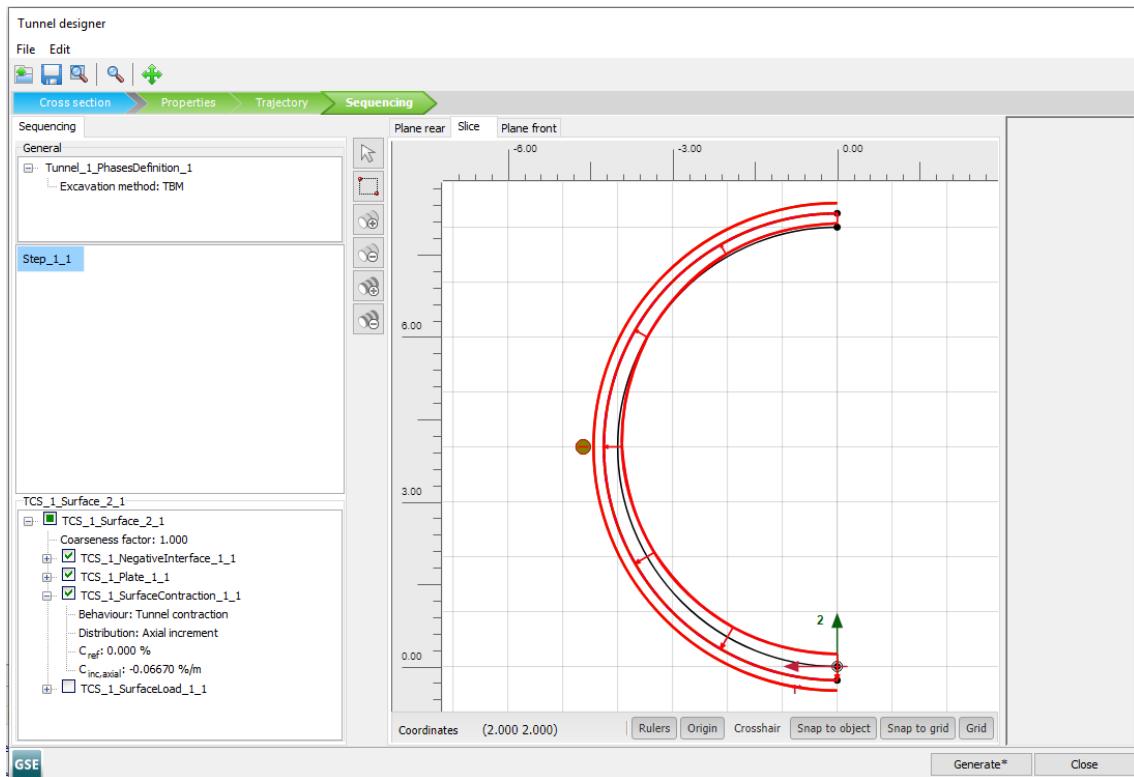

Figure 68: Slice tabsheet in the **Tunnel designer** for Step_1_1
- In the **Slice** tabsheet as well, select the outer surface. In the **Selection explorer**, activate the negative interface, the plate and the surface contraction (Figure 68 (on page 95)).